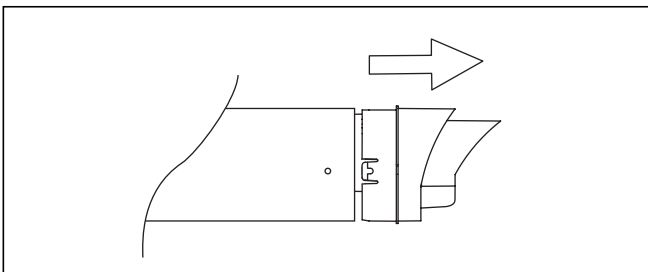

Fig. 2.19 Pulling out the terminal
- Pull the terminal together with the flue duct out of the air duct (fig. 2.19).